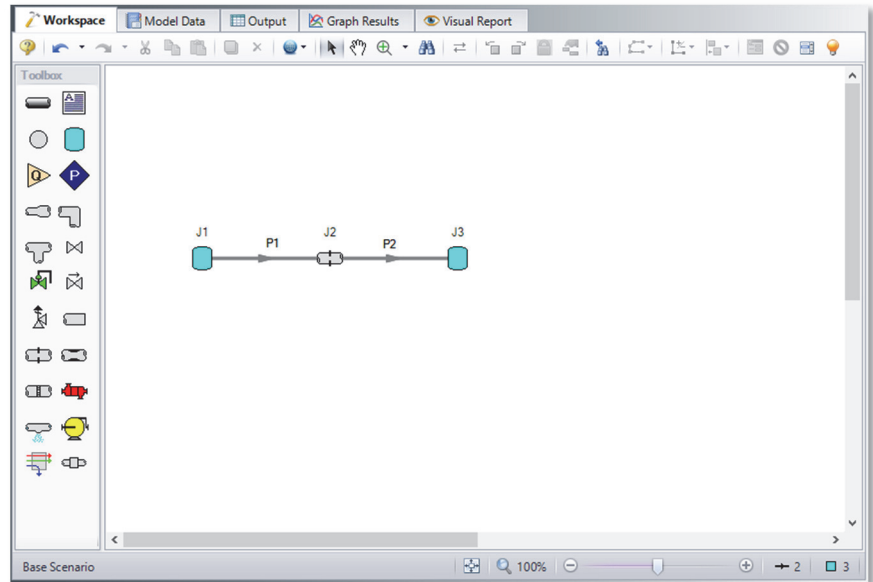

Figure 2.5f Walk through model with all objects placed
- **Activate the Pipe Drawing Tool again**, position the mouse pointer on the J2 Orifice, then press and hold the left mouse button. Stretch the pipe across to the J3 Tank, and then release the mouse button. Your model should now look similar to Figure 2.5f.